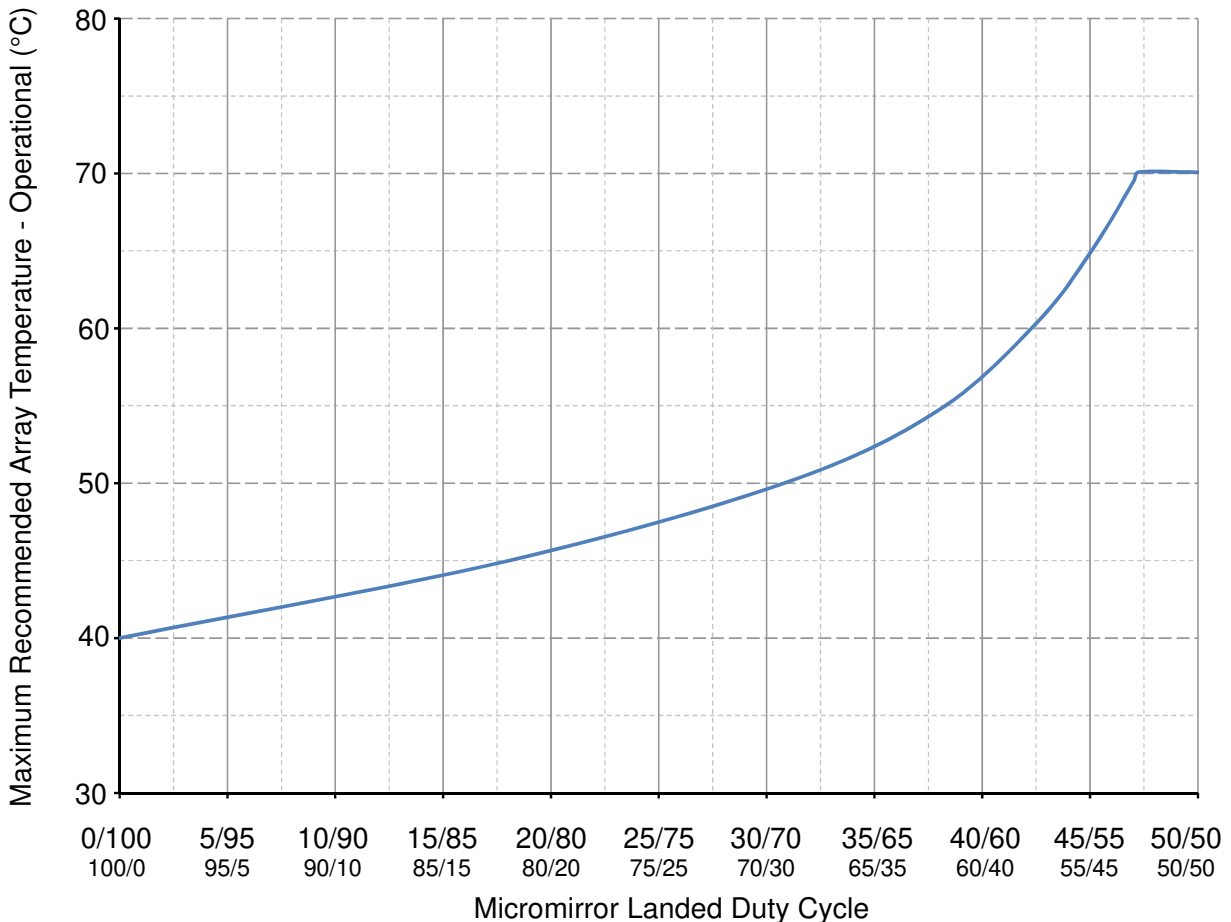

图 6-1. Max Recommended Array Temperature—Derating Curve
- (16) Per 图 6-1, the maximum operational array temperature will be derated based on the micromirror landed duty cycle that the DMD experiences in the end application. See 节 7.7 for a definition of micromirror landed duty cycle.
- (17) Long-term is defined as the usable life of the device.
- (18) Array temperatures beyond those specified as long-term are recommended for short-term conditions only (power-up). Short-term is defined as cumulative time over the usable life of the device and is less than 500 hours.